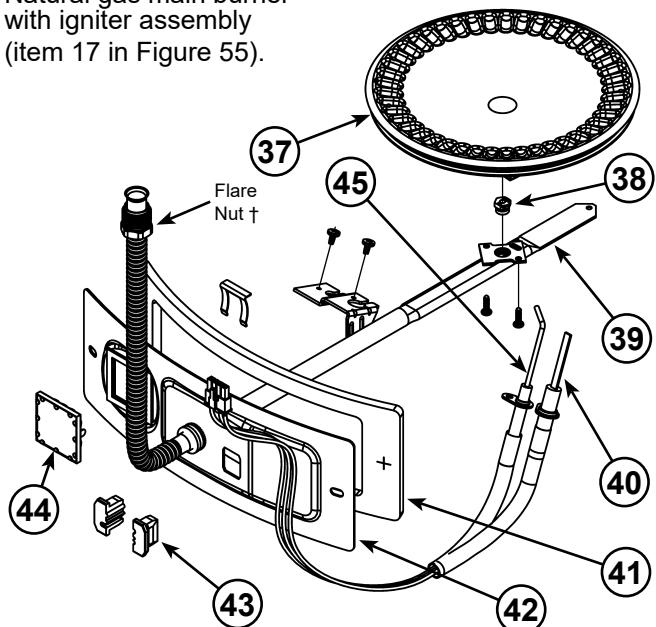

Figure 57.
- 17 Manifold Door Assembly (behind outer door) (see Figure 3 (NG) or Figure 4 (LP)) (see also **Figure 57**)
- 37 Aluminum Burner (see Figure 3) (see also **Figure 57**)
- 38 Gas Orifice (see Figure 3) (see also **Figure 57**)
- 39 Gas Manifold (see Figure 3) (see also **Figure 57**)
40 Hot-Surface Igniter (see Figure 3) (see also **Figure 57**)
41 Manifold Door Gasket (see Figure 3) (see also **Figure 57**)
42 Manifold Door (see Figure 3) (see also **Figure 57**)
43 Two Piece Grommet With Clip (see Figure 3) (see also **Figure 57**)
44 Viewport (see Figure 3) (see also **Figure 57**)
45 Flame Sensor Rod (see Figure 3) (see also **Figure 57**)